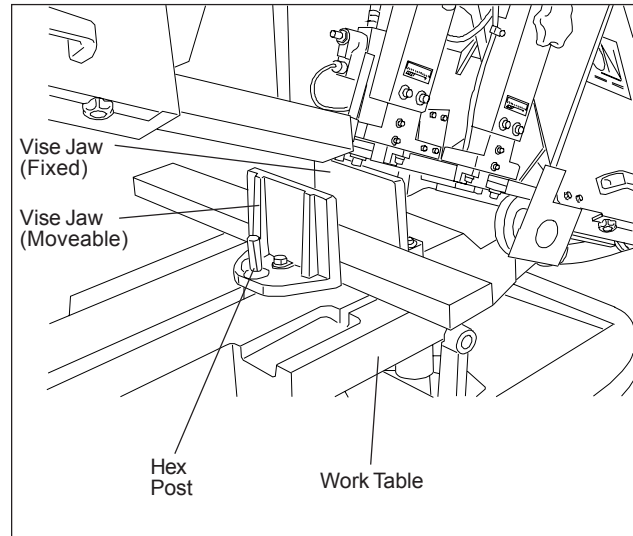

Figure 9: Securing the Workpiece
- Place work piece against fixed jaw (refer to Figure 9).
Adjusting the Vise for Angle Cuts (see figure 9)
- Turn the locking handle on the round, angle-setting block counterclockwise to unlock the block. Slide the block until the pointer on the block is aligned with desired angle (see figure 9). Tighten the locking handle to set the angle.